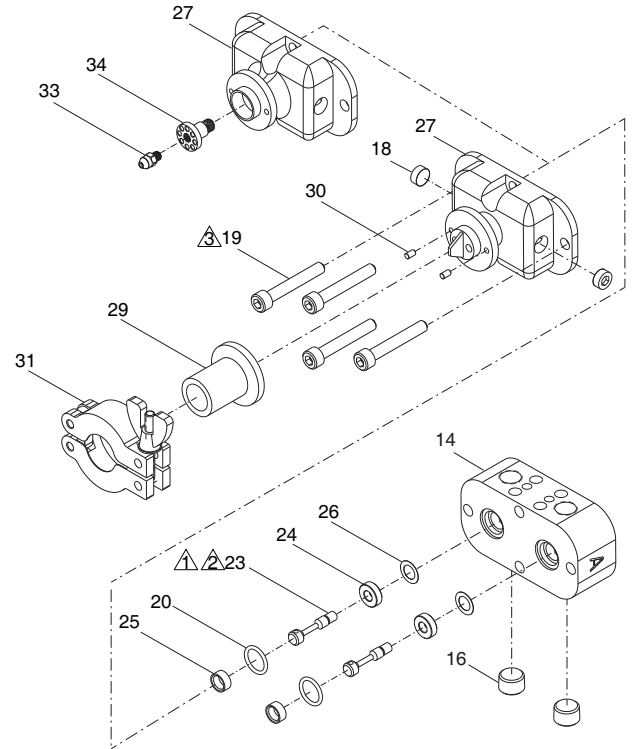
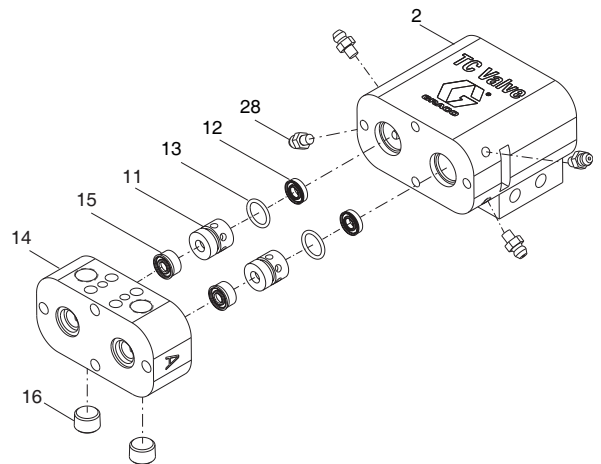
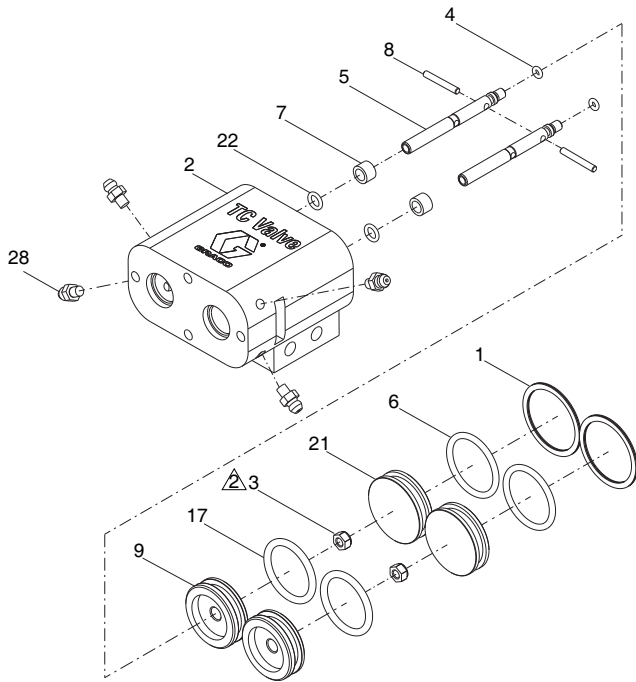

FIG. 3
FIG. 4
FIG. 5
3. Loosen clamp (31) ball nut, then remove the mixer cover (29).
4. Remove the four nose piece screws (19), and pull the nose piece (27) away from the valve,
5. Remove the insert (25), then remove the o-rings (20) from the inlet housing (14).
6. Use a 3/32 in. pin punch to remove the needle (23), then remove the seats (24) and gaskets (26) from the inlet housing (14). See FIG. 3.
7. Slide the inlet housing (14) off of the air cylinder (2), and remove the seals (15). See FIG. 4.
8. Remove the bearings (11), bearing o-rings (13), and secondary fluid seals (12).
9. Remove the retaining ring (1) from the back of the air cylinder (2). Push the two shafts (5) into the air cylinder (2) to dislodge the air cylinder cap (21). See FIG. 5.
10. Push the two shafts (5) to dislodge the piston (9) assembly from the air cylinder (2).
11. Use an o-ring pick to remove the o-rings (22) and use a screwdriver to remove the sleeve bearings (7) from the air cylinder (2).
12. Remove the o-rings (6) from the piston (9) and the o-rings (17) from the air cylinder cap (21).
13. Remove the lock nuts (3), the pin (8), and the o-rings (4) from the shaft (5).
1. Lubricate the shaft o-rings (22) and the bearings (7). Insert o-rings into the air cylinder (2). See FIG. 5.
2. Press the bearings (7) flush into the air cylinder housing (2), trapping the o-rings (22).
3. Lubricate and reassemble the piston assembly: piston (9), o-ring (6), dowel pin (8), nuts (3), o-ring (4), and air cylinder shafts (5). Tighten nuts (3) to 25-30 in-lb (2.8-3.4 N•m). The shafts (5) should hang with some play to be self-aligning in the bearing.
4. Lubricate the air cylinder (2) ID. Push the piston (9) assembly into the air cylinder.
5. Lubricate and assemble the o-ring (17) onto cap (21). Push cap (21) into the air cylinder (2).
6. Install the outside retaining ring (1).
1. Lubricate the bearings (11), the o-rings (13) and seals (12, 15). Put the o-rings (13) on the bearings. Carefully insert the seals (12) into the bearing recess, with the lips of the seals facing into the bearing. Be careful not to damage the seal lips. See FIG. 4.
2. Push the bearings (11) into the air cylinder (2).
3. Grease the inlet housing (14) and insert the seals (15) into the inlet housing (14) with the spring facing out of the fluid inlet.
4. Insert the gaskets (26), seats (24), and the o-rings (20) into the inlet housing (14). See FIG. 3.
5. Screw in the needle (23) and tighten it to 25-30 in.-lb (2.8-3.4 N•m).
6. See **Nose Piece Orientation**, page 8. Install the nose piece (27) with the insert (25) and nose piece screws (19). Tighten the nose piece screws to 115-120 in-lb (14-15 N•m).
7. **For 26D920 and 26D921**, Install injector tube (34) and torque to 40-50 in-lb (4.5-5.6 N•m).
8. **For 26D920 and 26D921**, Install injector tip (33) and torque to 25-30 in-lb (2.8-3.4 N•m).
9. Insert the mixer cover (29) with clamp (31) and tighten the clamp ball nut.
10. Remove zerk grease fitting (28). Fill grease in the grease port below until grease begins to exit where the zerk grease fitting (28) was located. Repeat for the other zerk grease fitting (28). See FIG. 5.